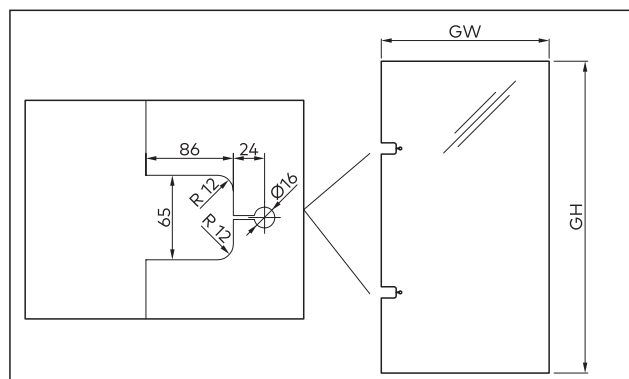

Fig. 7 Glass preparations
2. Check dimensions of glass preparation (Fig. 7).